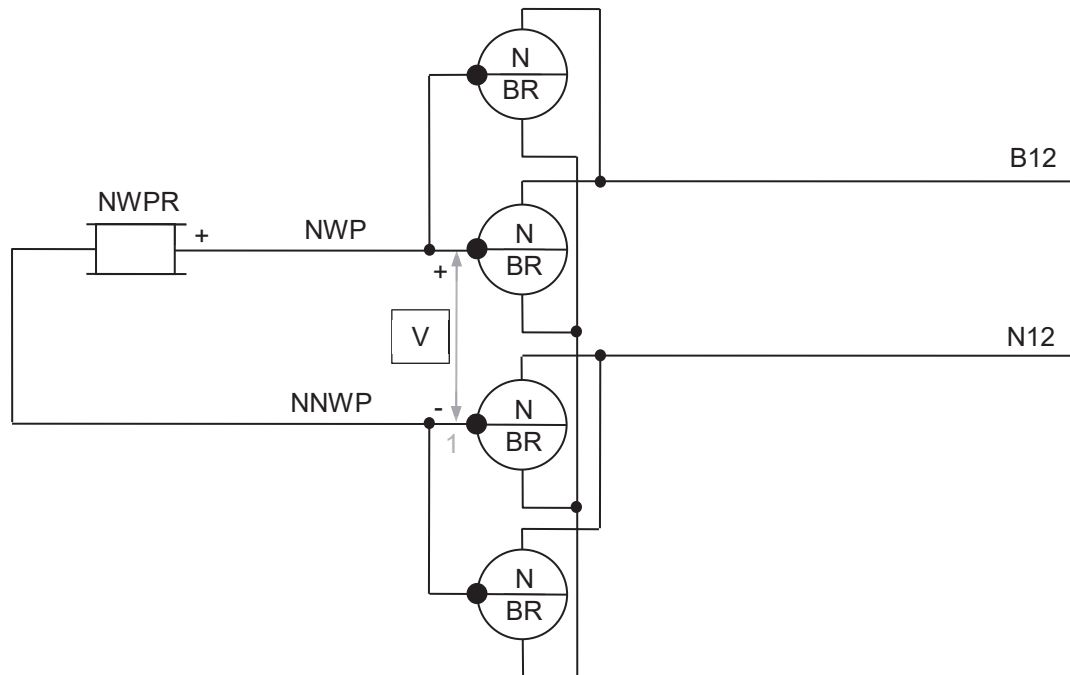

Figure 1: Repeater Circuit
2. Check Initial State	<ul style="list-style-type: none"> Switch multi-meter to 15 volt range. Connect the meter leads on the SCC heel contacts as indicated in Figure 1 with proper polarity. → Check the meter indicates approximately 10 volts.